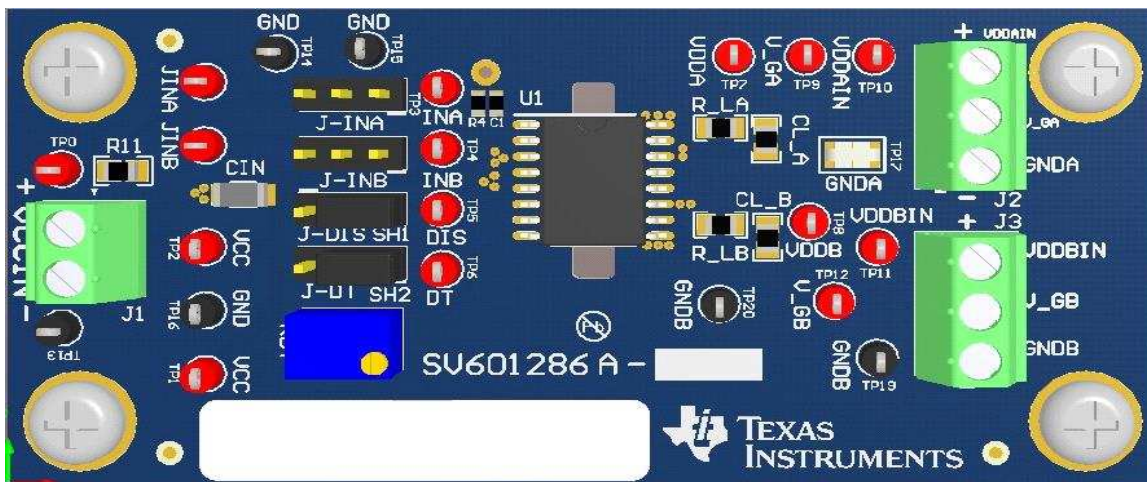

Figure 1. Jumpers Installation Position
1. Install shunt #1 for header *J-DIS* on pin 2-3 for the UCC21520EVM shown in Figure 1. For the UCC20520EVM, UCC21521CEVM and the UCC21530EVM, refer to Table 1. The UCC20520EVM is set as disable high on the DIS pin while the UCC21521CEM and UCC21530EVM is set as enable high on the EN pin.
2. Install shunt #2 on header *J-DT* on pin 1-2 as shown in Figure 1.